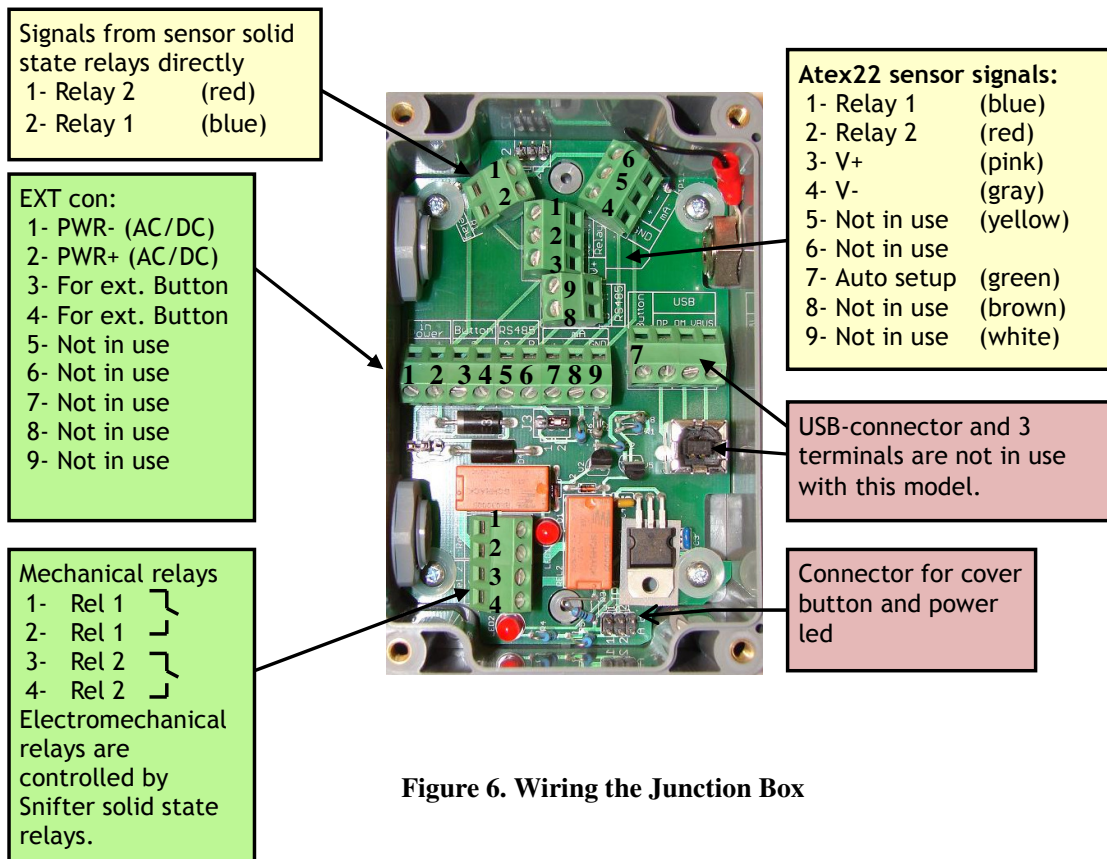

Figure 6. Wiring the Junction Box
Connect the 8 wires from Atex22 sensor as defined in figure 6 above (Atex22 signals).
There is also possibility to use directly Atex22 sensor solid state relays. Connect the relay load, continuous maximum load 70mA, between the output wire and power supply minus wire. **Each relay output is secured with a 100mA slow blow (T) fuse.** See figure 6 above.